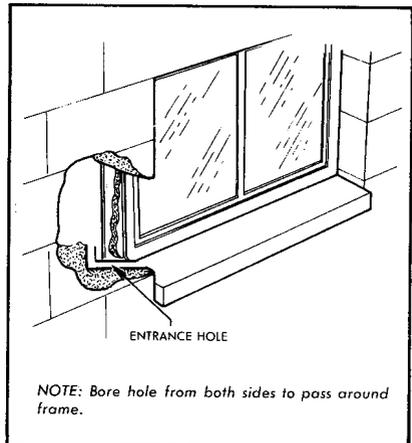

FIGURE 1. Entrance at Metal Window
- b. When a metal window frame is set in masonry or bricks, enter as shown in Figure 1.